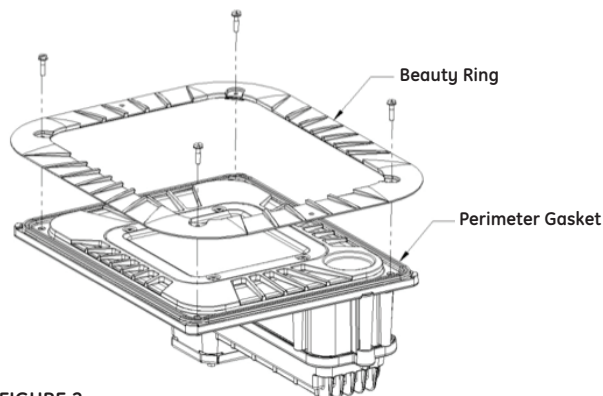

FIGURE 2
- B. Remove 4 screws from the luminaire in order to remove the beauty ring. Set beauty ring and screws aside for later use. (See Fig.2)